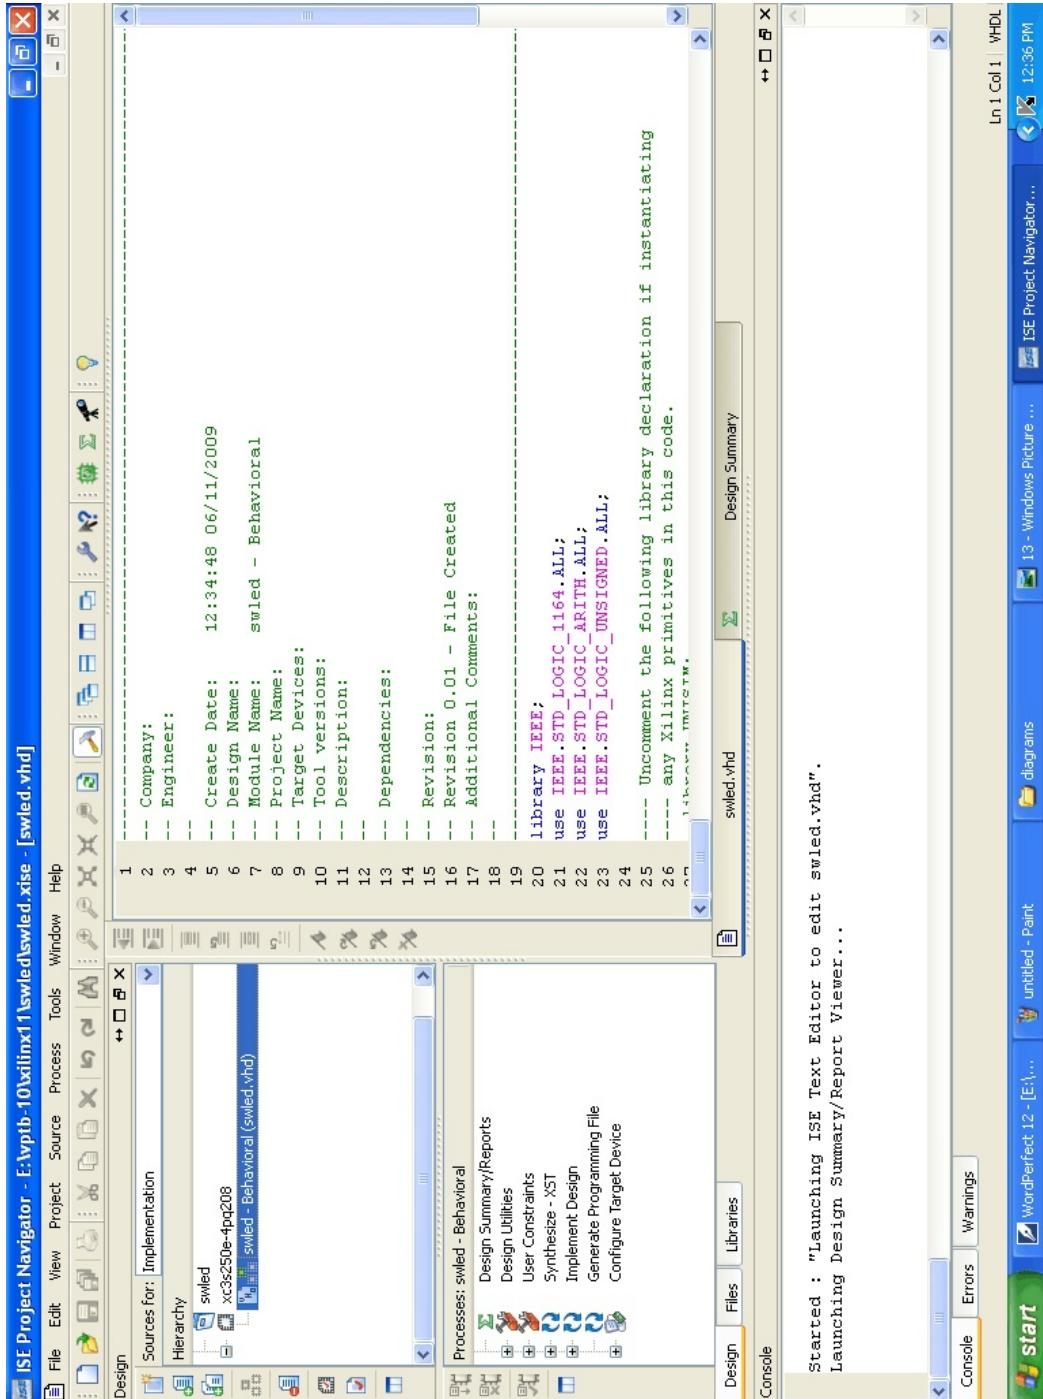
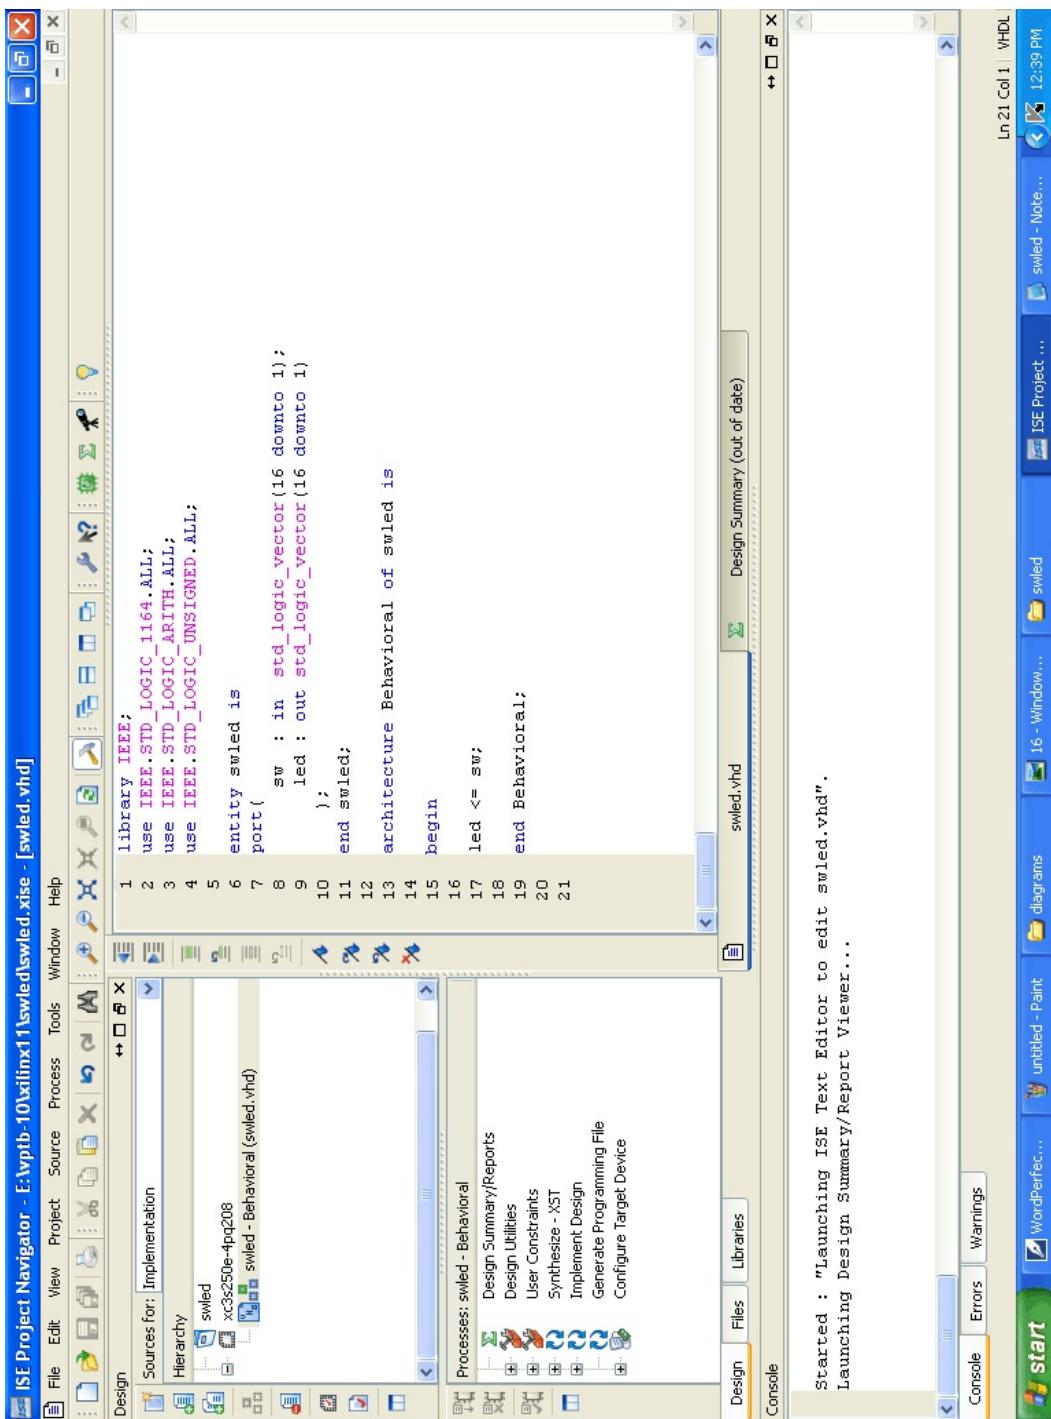
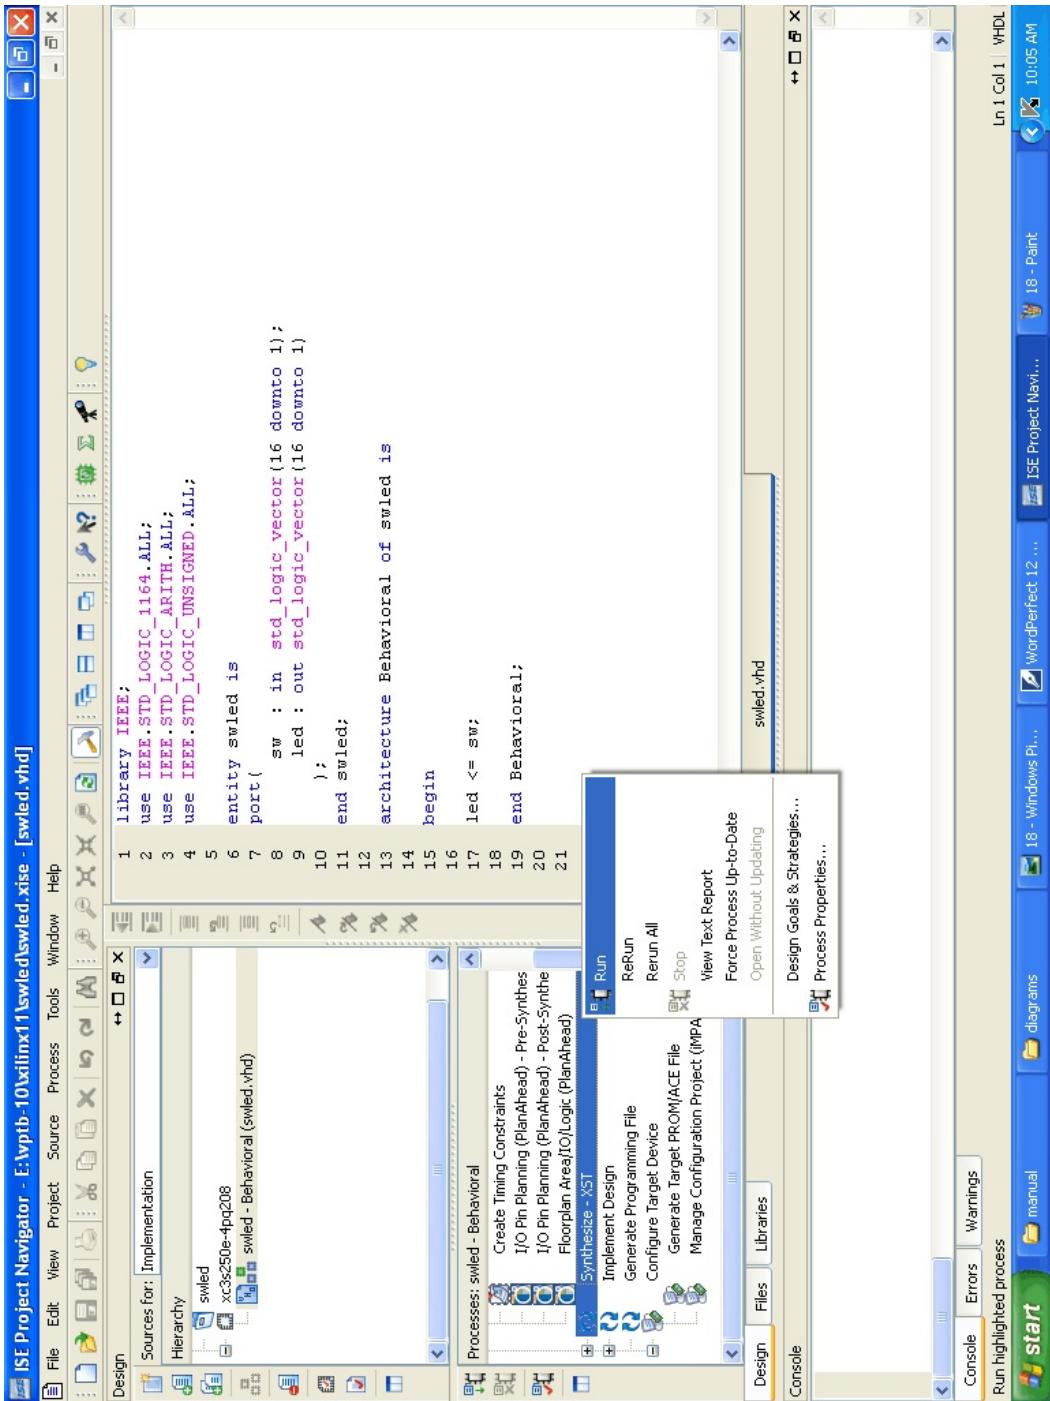

Figure-16
Figure-17
Figure-18
5. A window shown in **Figure-16** will appear. You can type your VHDL code in the right side of window and save it by clicking on the **Save** button (refer **Figure-17**). Now in the “Processes:” window double click **Synthesize-XST** as shown in **Figure-18**.